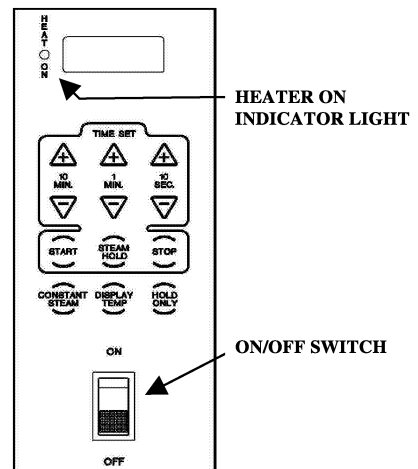

Figure 2-3 ON/OFF Controls and Indicators
- Press the ON (top) end of the ON/OFF switch to the ON position to energize the steamer control panel. The red indicator on the switch lights, the red “heater ON” indicator on control panel lights, and the steamer begins the preheat cycle. (see Figure 2-3)